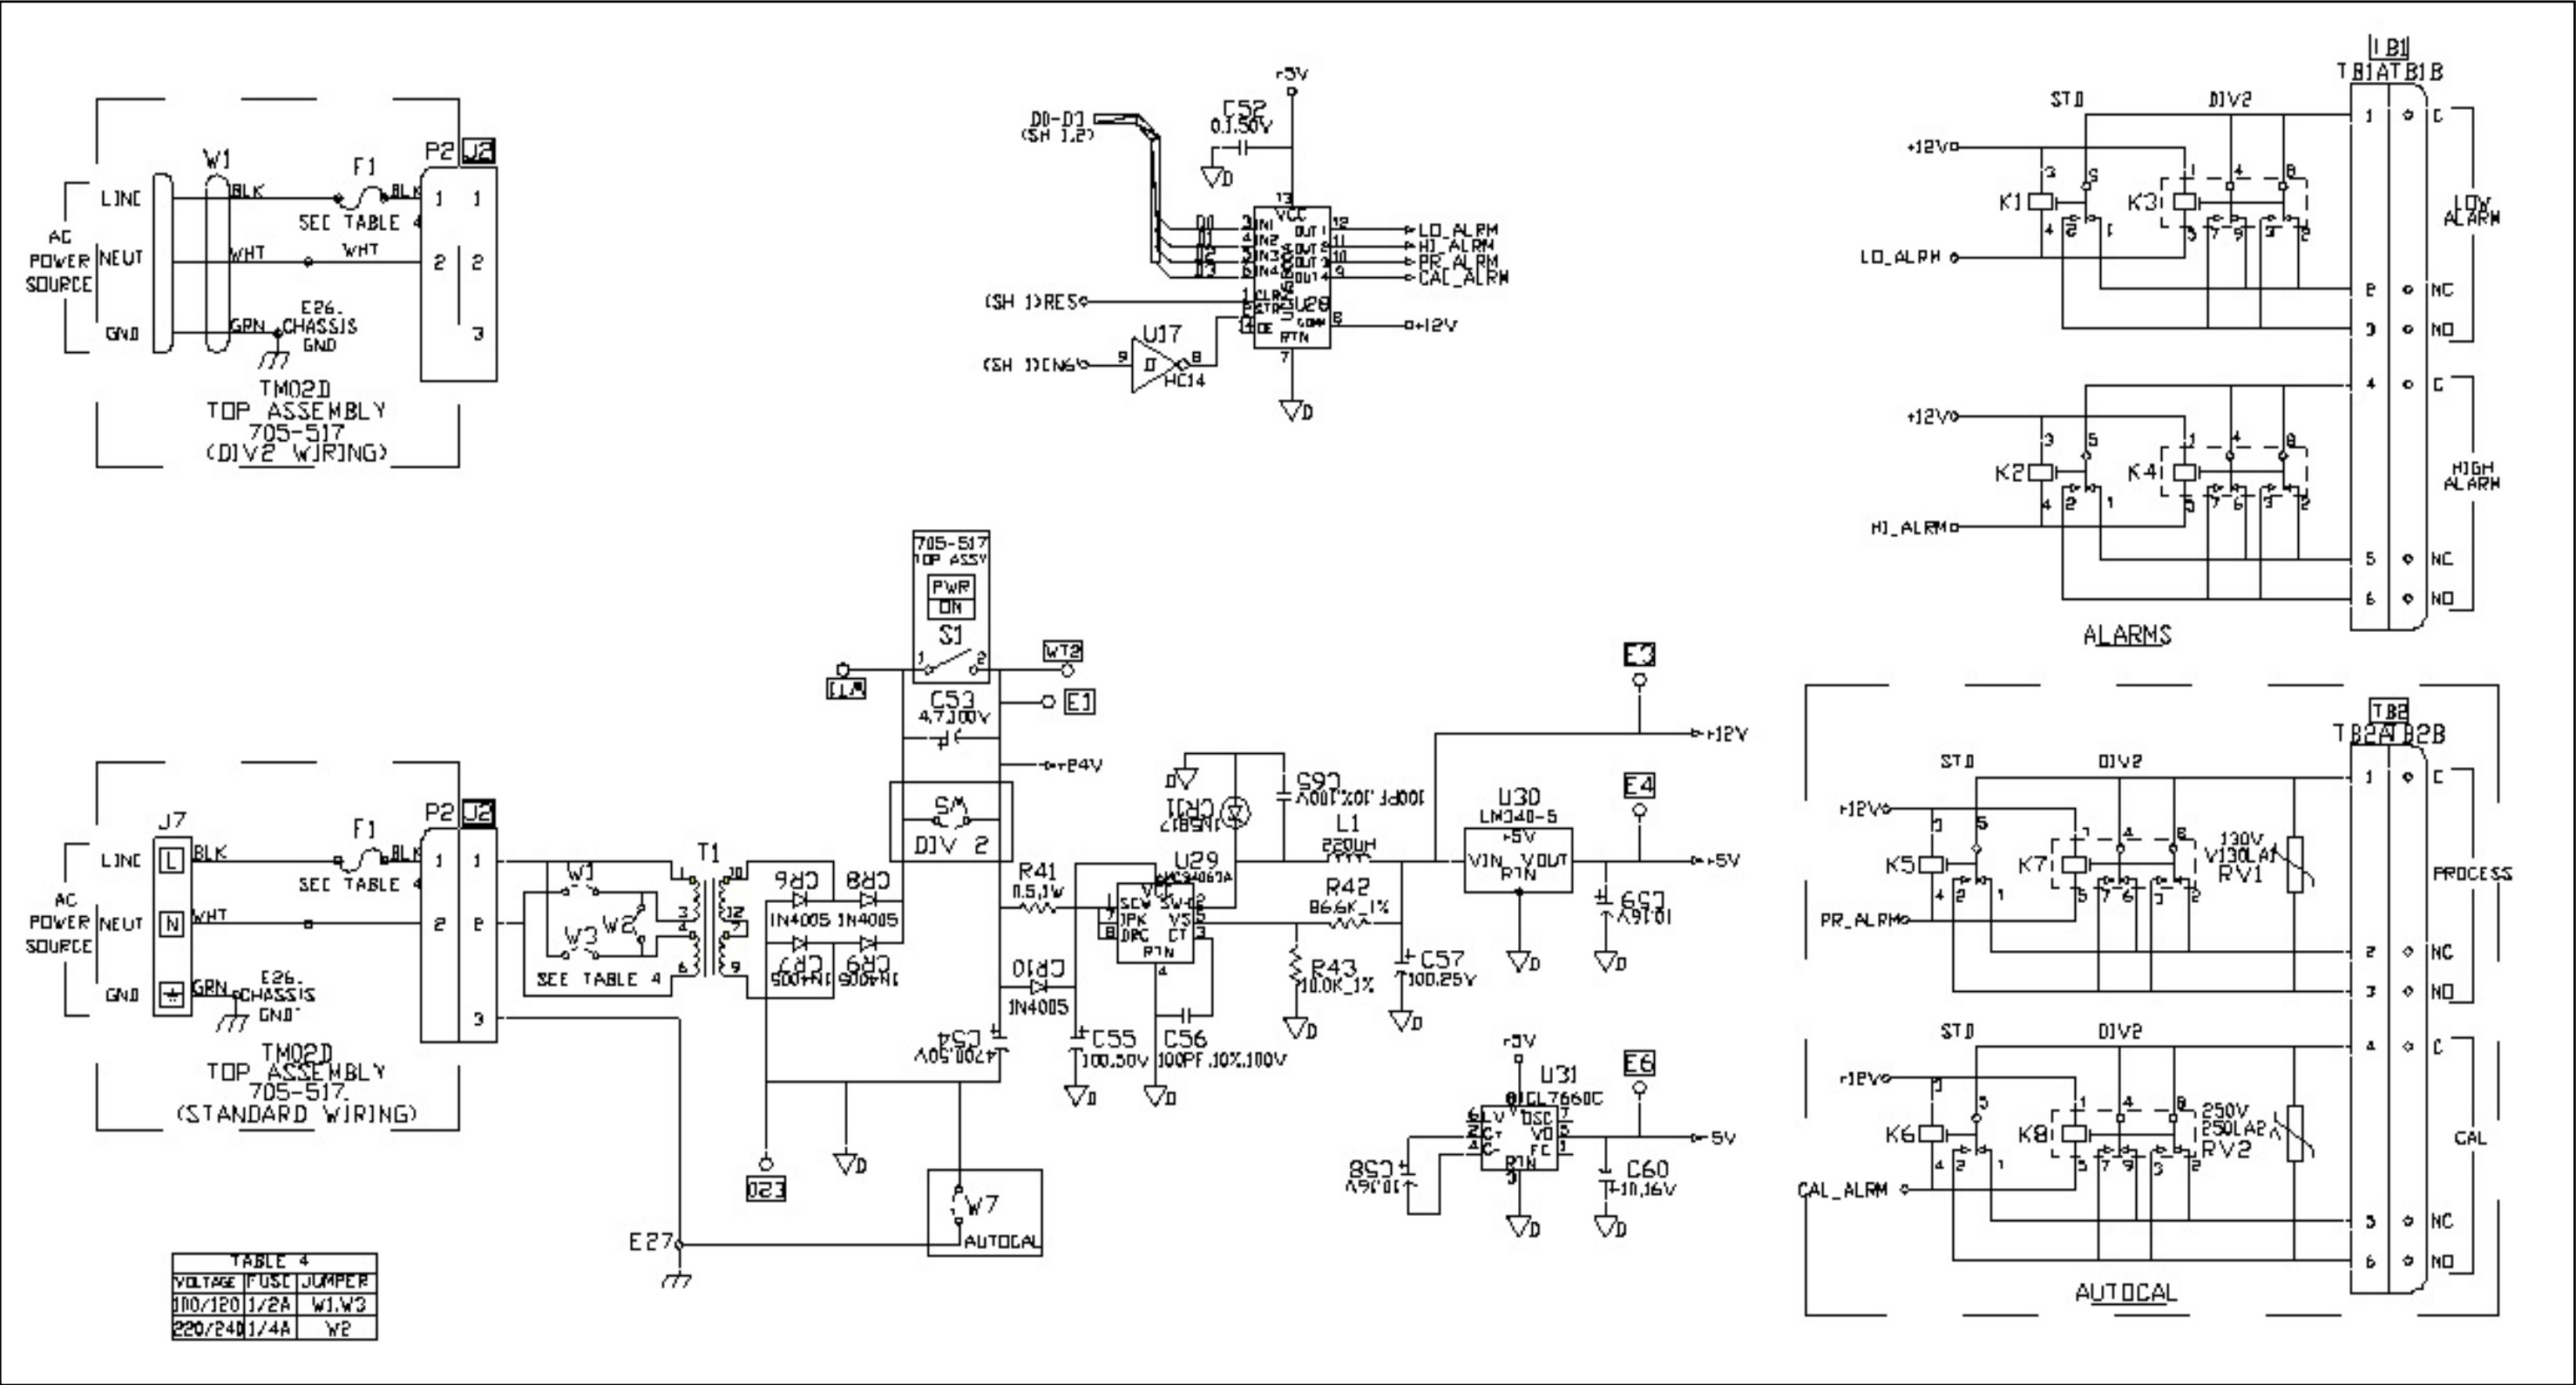

Figure 25: Oxygen Display PC Board Schematic (ref. dwg #700-1226, sht 3)
- *Figure 25:* Oxygen Display PC Board Schematic, sht 3